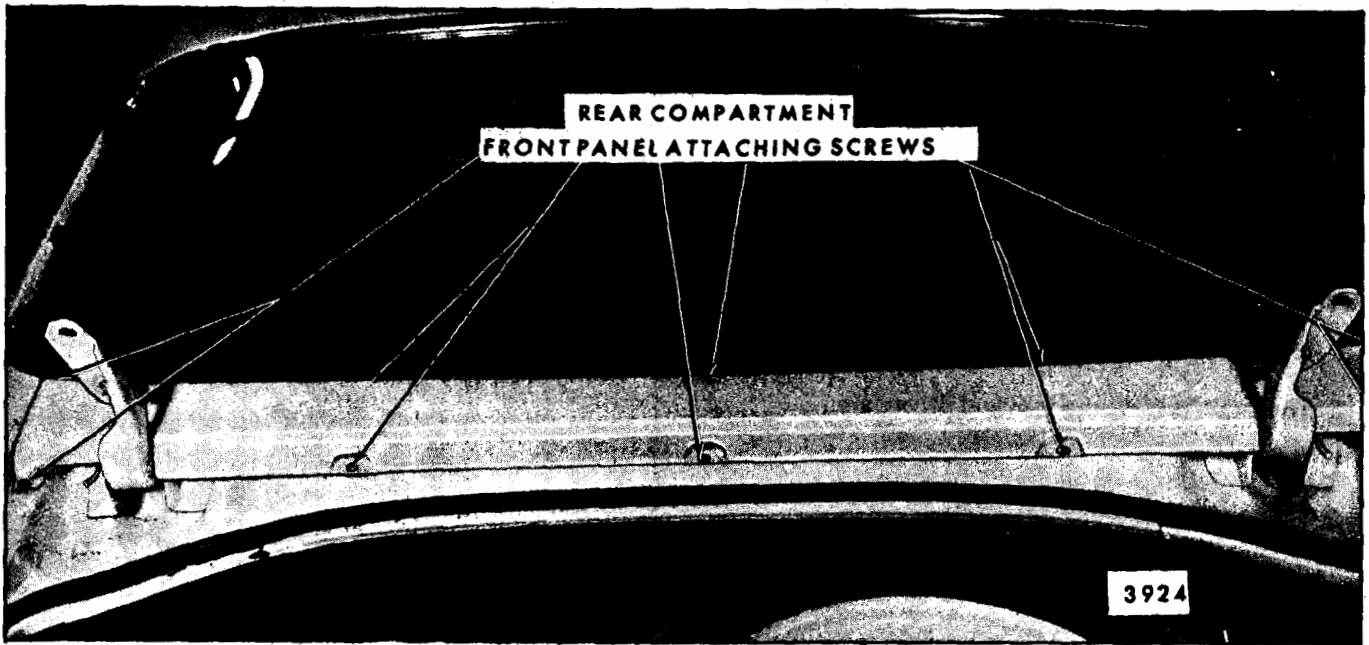
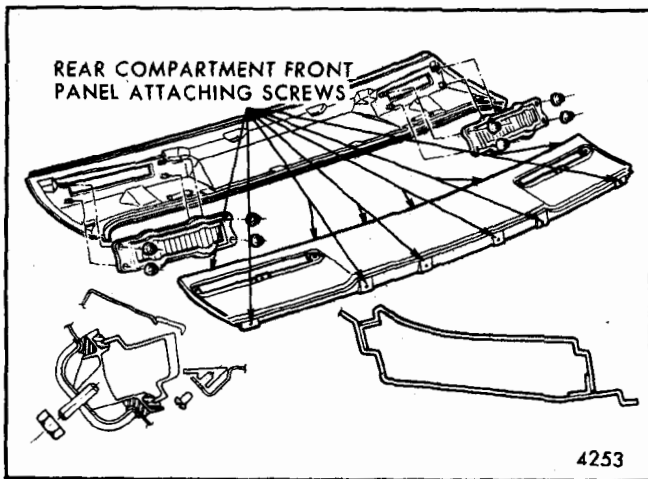

Fig. 8-21-Rear Compartment Front Panel - "F" Styles
Fig. 8-22-Rear Compartment Front Panel - Buick "E" Styles
1. With rear compartment lid raised, remove screws from lower edge of panel (refer to Figure 8-21 for "F" styles and Figure 8-22 for Olds "E" styles).